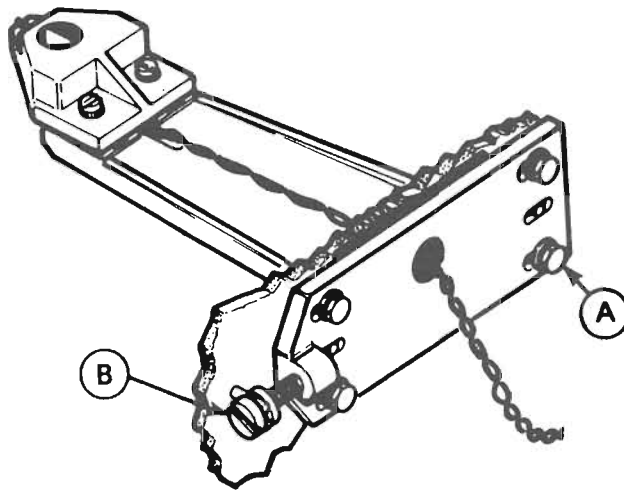
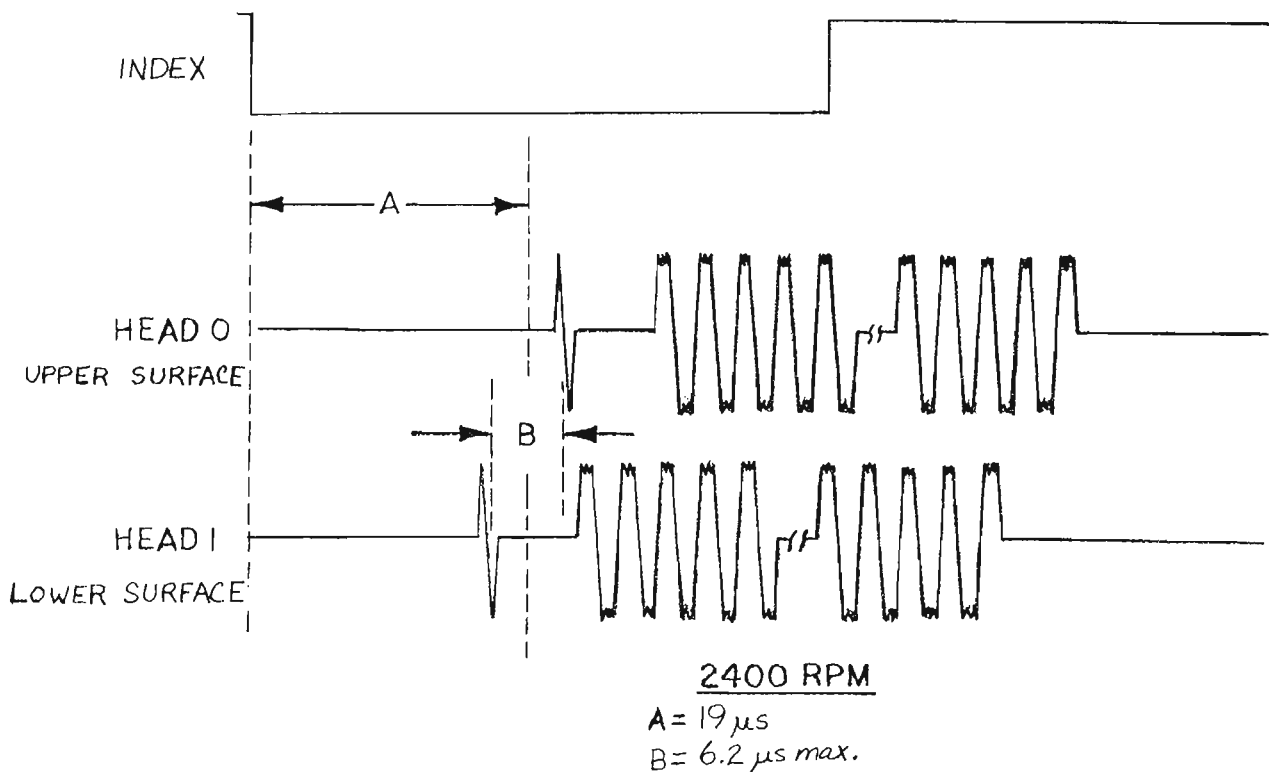

FIGURE 20 UPPER INDEX TRANSDUCER ADJUSTMENT
FIGURE 21 INDEX TRANSDUCER ALIGNMENT TIMING REQUIREMENTS
6. Locate the index transducer baseplate, which is screwed to the outside front of the bowl assembly at the centerline. This plate, shown in Figure 20, has four hex-head fastening screws ("A") and a slotted-head adjustment screw ("B").
4. Using the adjustment screw ("B" Figure 20), position the index transducer so that the leading edge of the read gate occurs 19 usec  $\pm$  3 usec after the leading edge of the index mark. Do not tighten the fastening screws yet. See "A" in Figure 21.
5. Alternately selecting each of the upper heads, adjust the index transducer so that the read gate is symmetrical around the 19 usec point. Total pulse separation between the heads shall not exceed 6.25 usec. If this tolerance is exceeded, the heads must be checked for proper seating. See "B" in Figure 21.